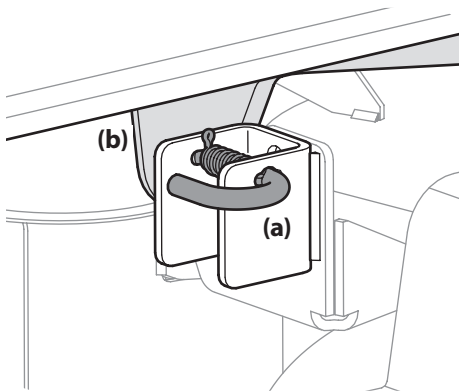

Figure 4-13
- Locate the LH and RH deck release pins (a) on each side of the deck. Pull the deck release pins (a) outward and release the deck from the LH and RH deck lift arms (b). See Figure 4-13.
4. Pull the deck release pins outward and maneuver the deck as necessary to align the holes in the deck lift arms with the pins. Refer to Figure 4-13.